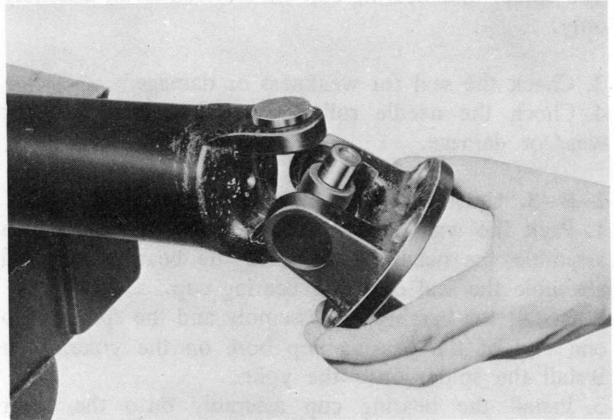

Fig. 8-7 Removing yoke and spider assembly
8. Remove the yoke and spider assembly as shown in Fig. 8-7.